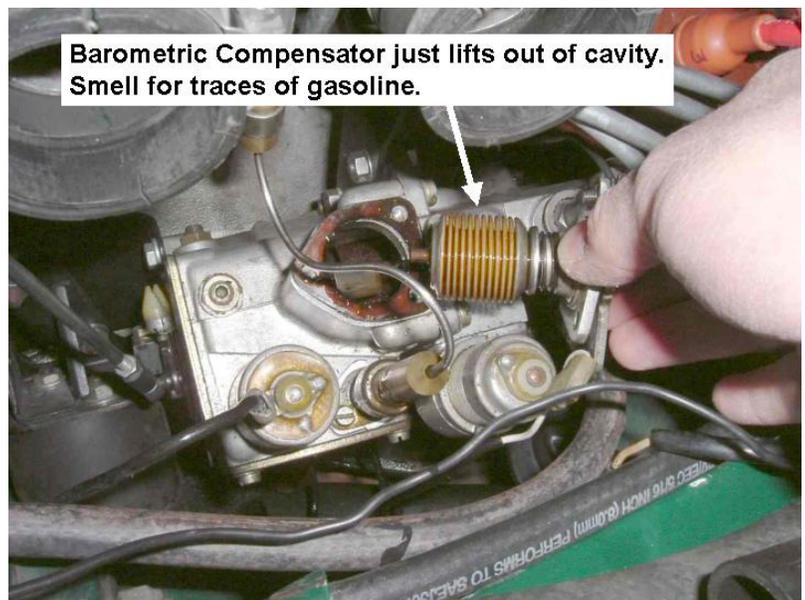

Fig 3. Removing the Barometric Compensator. To remove the BC simply remove the three machine screws and lift the BC out. It's not attached to anything inside.
VERIFICATION: Remove the Barometric Compensator and look for a broken retaining spring. See Fig. 3. You can use your finger to push on the spring to verify that it's attached at the top and bottom. See Fig. 4.
- a. Remove Barometric Compensator (3 screws) See Fig. 3.